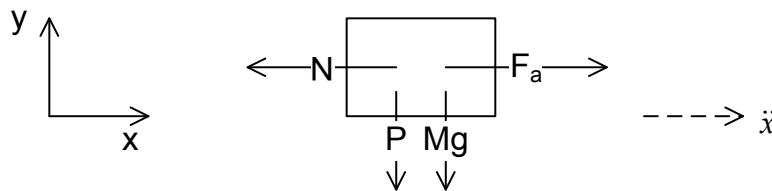
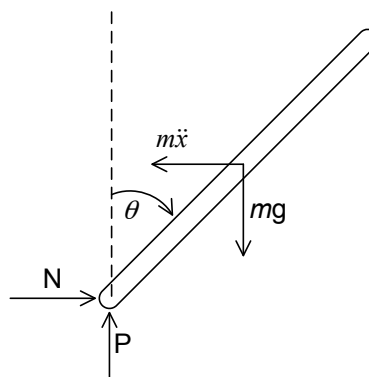

Figure 2: Free body diagram of the cart (ignoring friction; normal force not depicted)
Figure 3: Free body diagram of the pendulum (ignoring friction; the  $m\ddot{x}$  vector will appear in the torsion equation due to D’Alembert’s effect)
*Hint:* Consider the following force/torque balance equations: horizontal acceleration on the cart, acceleration of the center of mass of the pendulum, and torsion of the pendulum. An easy way to analyze the torque equation for the pendulum is to consider its motion as observed from the frame of the cart. However, this will introduce a ‘fictitious’ force, known as D’Alembert’s effect. The associated free body diagram of the cart and the pendulum are given in Figure 2 and Figure 3, respectively. Apply Newton’s laws to obtain the required equations.